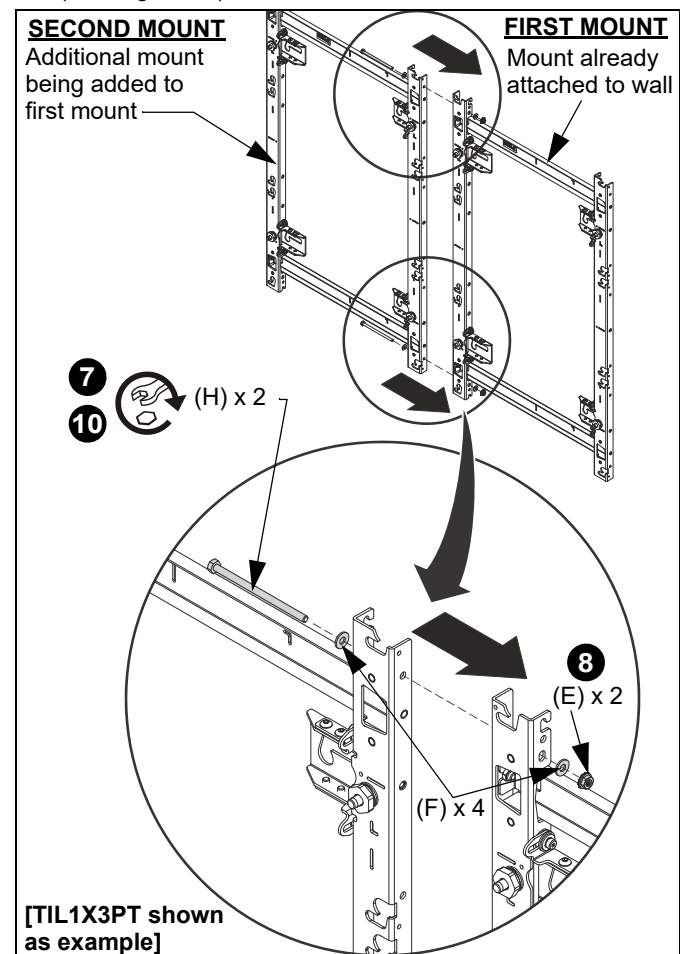

Figure 13
7. Install two 1/4-20 x 4-1/2" hex head bolts (H) and two 1/4" steel washers (F) into the right or left side of the second mount at **both top and bottom**, and through into the left or right side of the first mount. (See Figure 13)
8. Loosely fasten second mount to first mount using two 1/4" steel washers (F) and two 1/4-20" flanged hex nuts (E). (See Figure 13)
9. Slide adjustment washers (A) behind head of upper fasteners in mount. (See Figure 13)
10. Tighten both fasteners between mounts (at top and bottom where the second mount is connected to the first mount). (See Figure 13)